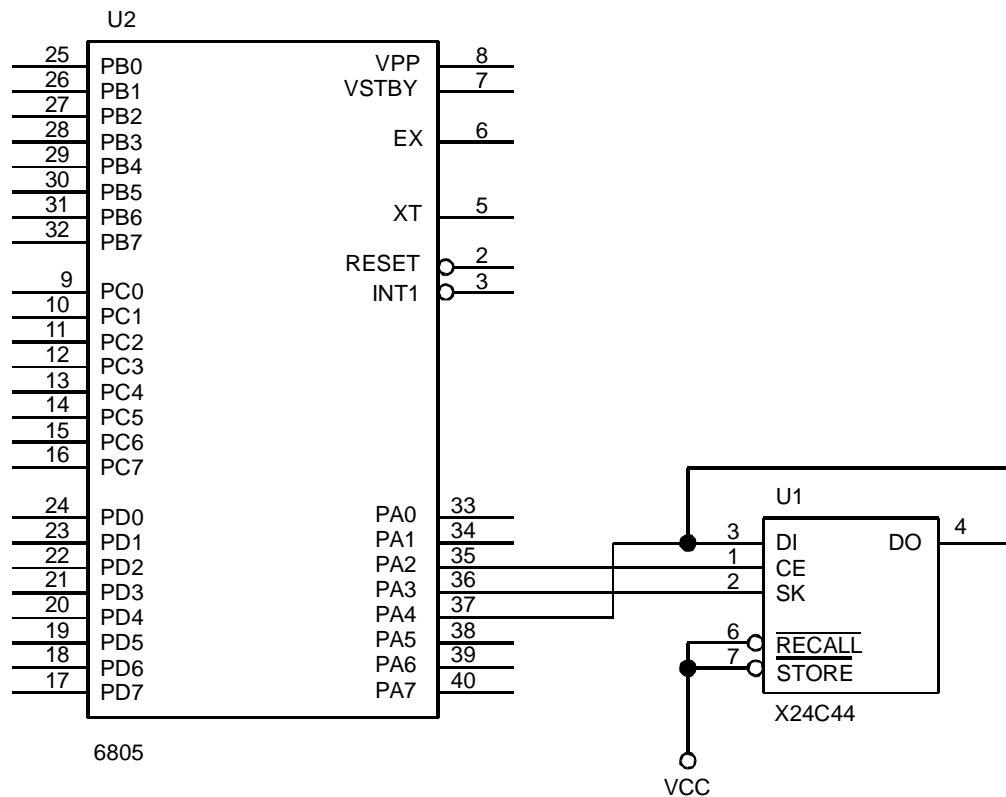

Figure 1. Typical hardware connection for interfacing an X24C44 to a 6805 microcontroller
The following code demonstrates how the Xicor X24C44/45 serial NOVRAMs could be interfaced to the 6805 microcontroller family when connected as shown in Figure 1. The interface uses port A, with the PA3 pin connected to the serial clock (SK), PA2 connected to chip enable (CE), and PA4 connected to both serial